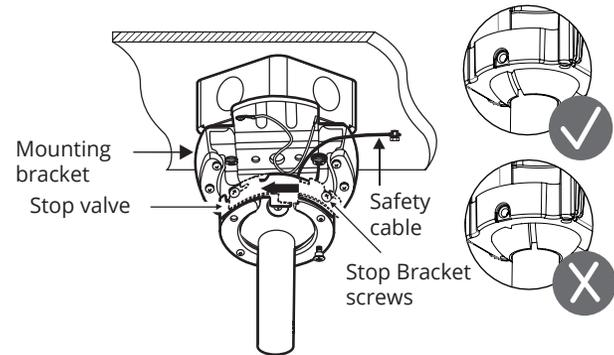

FIGURE 12
4. Carefully lift the fan motor assembly up to the mounting bracket and seat the hanger ball in the mounting bracket. Rotate the socket assembly until the ball drops and locks into the hanger bracket screw. (Fig. 12)
5. Secure the safety cable to the building structure using a wood screw (not included). (Fig. 12)
6. Secure the stop valve onto mounting bracket by tightening two stop valve screw to close up the opening of mounting bracket. (Fig. 12)